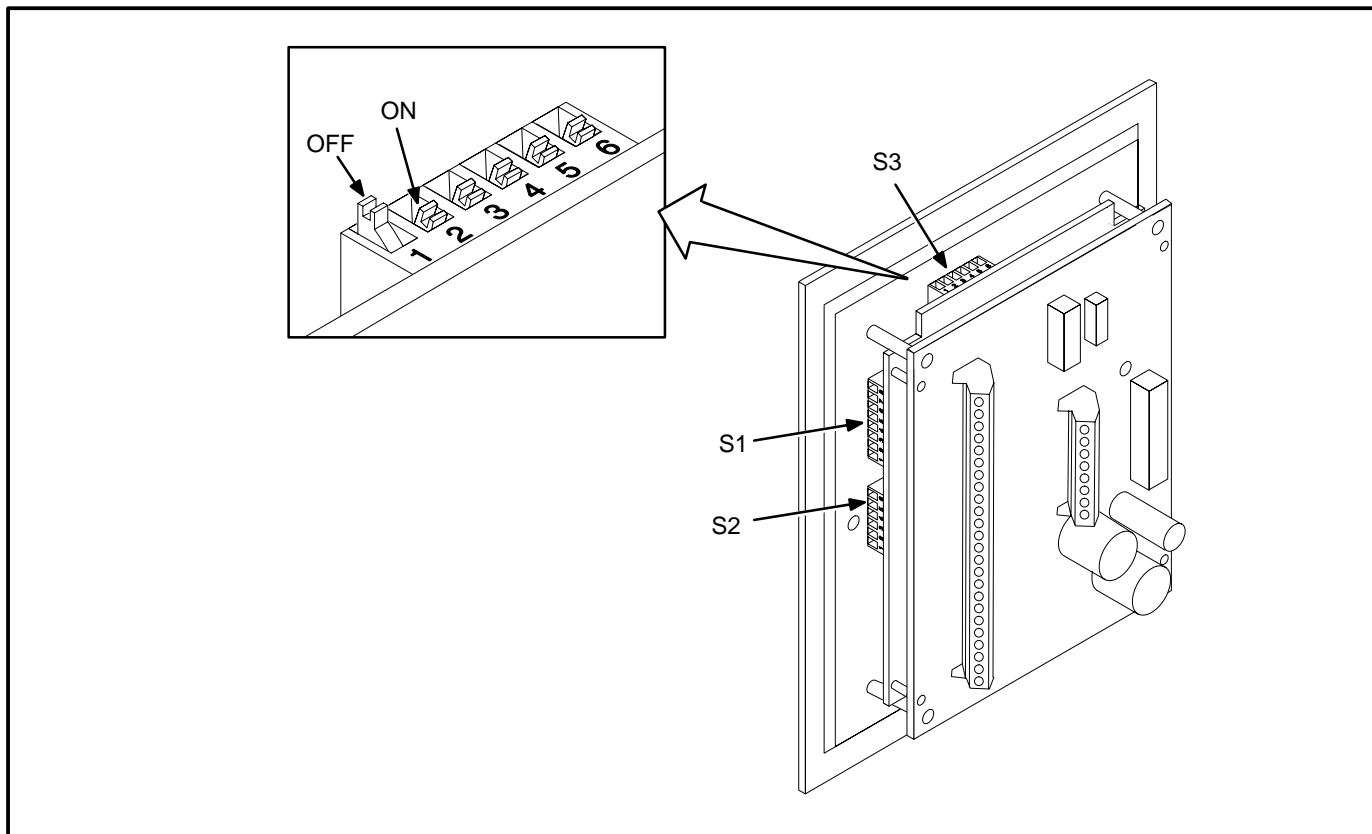

FIGURE 4. MODIFICATION SWITCH LOCATIONS
Each of the bottom 14 annunciator audible alarms can be individually set to ON or OFF. Setting the individual switch (specified in Table 3) to the ON position allows the fault to turn the audible alarm on. Setting the individual switch to the OFF position turns the audible alarm feature off. Refer to Figure 4 for switch location and settings.
2. Confirm that S3 switch settings are in the following positions (refer to Figure 4):
1. Check S2 and S3 switch positions using Table 3 and Figure 4. Verify that the input's corresponding audible alarm switch (S1 or S2) is set to ON.